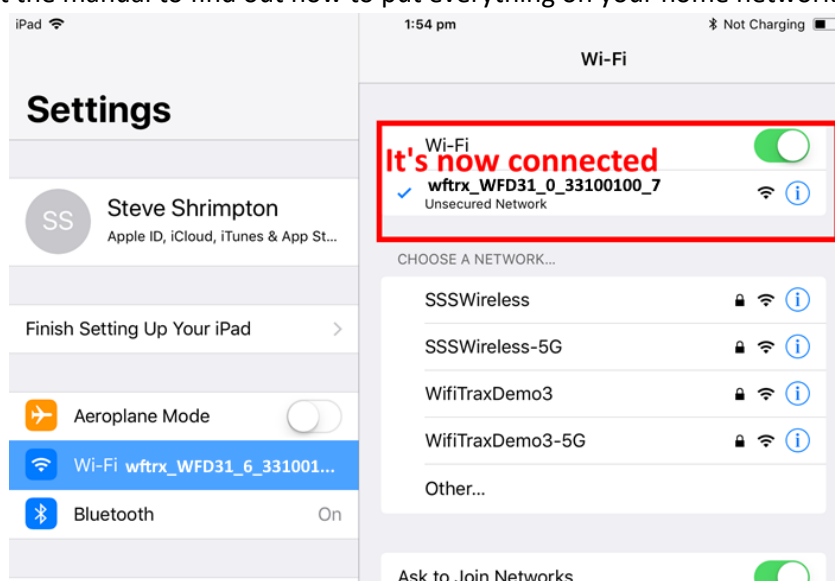

Figure 6 The iPad has connected to the WFD-31 Wi-Fi Access Point
- (6) No password is required and after a few moments you should see that it has connected as in Figure 6. The left-hand menu shows Wi-Fi wftrx_WFD31_1_XXXXXXX_7. You will not be able to access the internet while you are connected to the Wi-Fi access point of the WFD-31, but consult the manual to find out how to put everything on your home network.